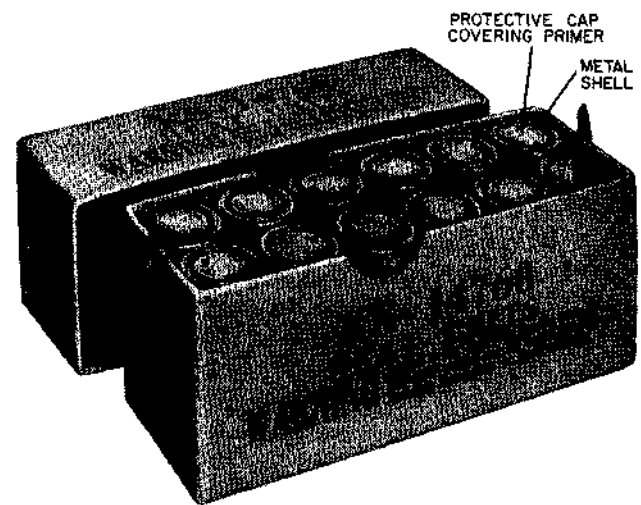

Fig. 3—KS-14768 Heat Units
4.01 A carton of twelve KS-14768 heat units is shown in Fig. 3. A heat unit consists of a cylindrical metal shell with a primer at one end. The primer is covered by a protective cap which is readily indented by the firing pin mechanism of the copper. The chemical mixture, sealed in the shell, is ignited when the primer is actuated by the firing pin. As the chemical mixture burns without generating or releasing gases, the unit is entirely safe for use within the copper. However, should the unit be ignited outside the copper, contact with the air would cause it to become white hot and therefore, a fire hazard.